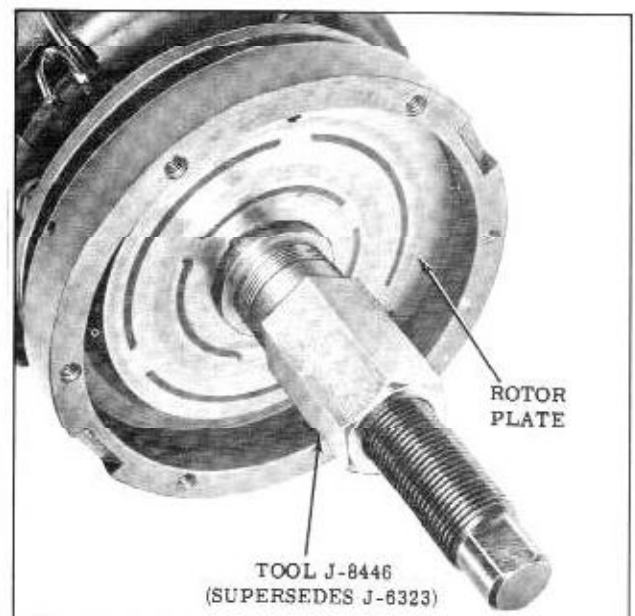

Fig. 14-27 Installing Clutch Rotor Plate
3. Thread the bolt of Tool J-6323 or J-8446 (without spacer) onto the compressor shaft and, while holding the bolt, turn the nut counterclockwise until the rotor plate and hub seat against the spacer and shims. (Fig. 14-27) Remove the tool(s).